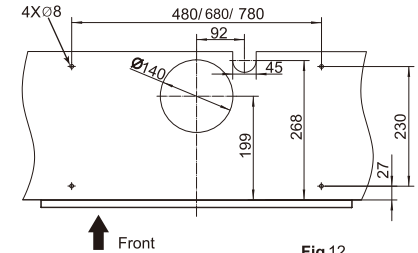

Fig.12
2. Drill a hole of 140mm diameter, 4X $\phi 8$ mounting holes and one clearance for power cord on the cabinet board, respecting the distance indicate in Fig.12 .